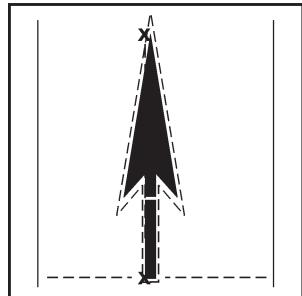

Figure 49
5. Lay out the next two sections of the arrow (liner still on) on top of the base. Mark around the entire arrow with grease chalk or keel (see Figure 49).
- After the surface preparation adhesive is set, remove the liner from the base of the arrow and carefully lay it down using the marks made in Step 5 as a guide (see Figure 49).